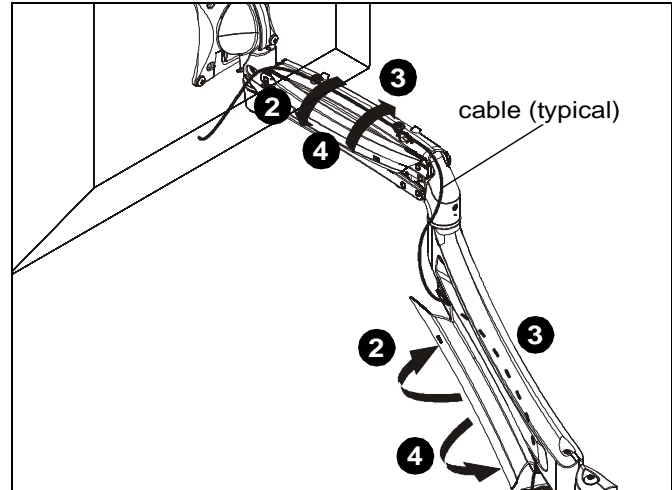

Figure 18
3. Route cables through cable management channels. (See Figure 18)
4. Close cable management covers on monitor arm. (See Figure 18)